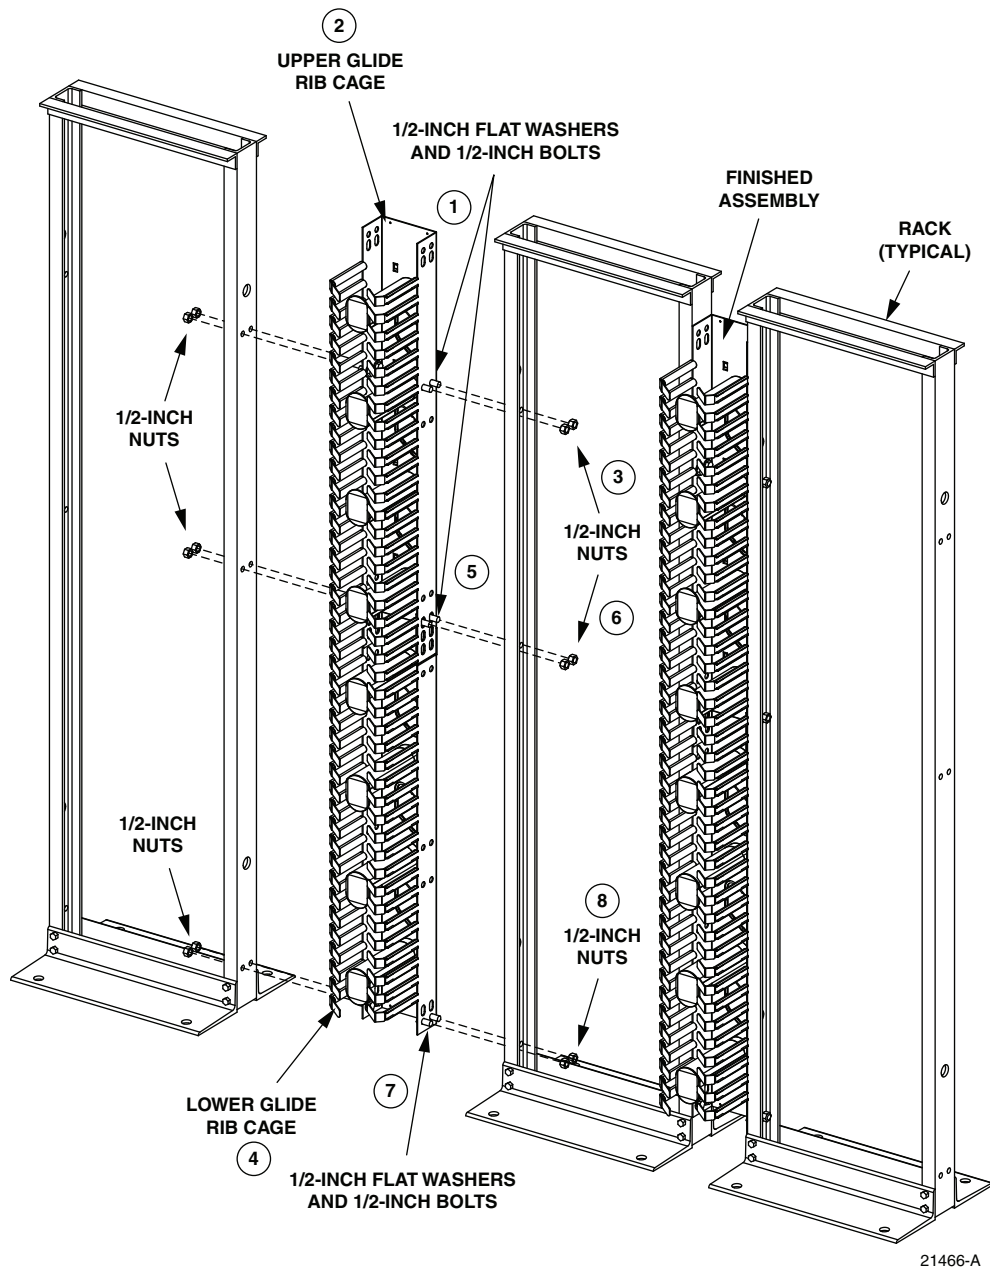

Figure 1. Channel Rack Glide Cable Management System Installation
1. Place a 1/2-inch flat washer on two 1/2-inch bolts. Locate two unused 1/2-inch holes (third set of holes from top) in the upper glide rib cage. See Figure 1. Insert a bolt through each hole from the inside of the rib cage.
5. Place a 1/2-inch flat washer on two 1/2-inch bolts. From the inside of the glide rib cages, insert these bolts through center holes in the glide rib cages and rack. See Figure 1.
7. Place a 1/2-inch flat washer on two 1/2-inch bolts. Locate two unused lower 1/2-inch holes in the rack. See Figure 1. Insert a bolt through each hole from the inside of the lower glide rib cage.
13. Place 1/2-inch flat washers on six 1/2-inch bolts. Insert the bolts through the appropriate holes in a rack and glides. See Figure 1.